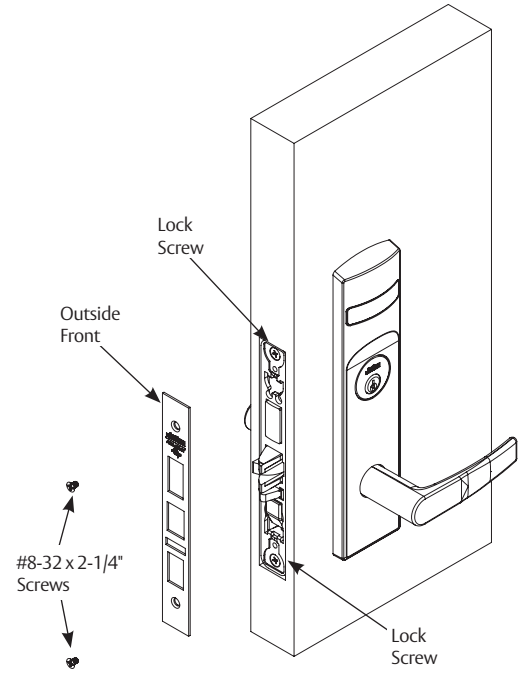

Figure 17
1. Tighten the two (2) lock screws completely.
2. Attach the outside front with two (2) flat head screws #8-32 x 1/4". (Figure 17)